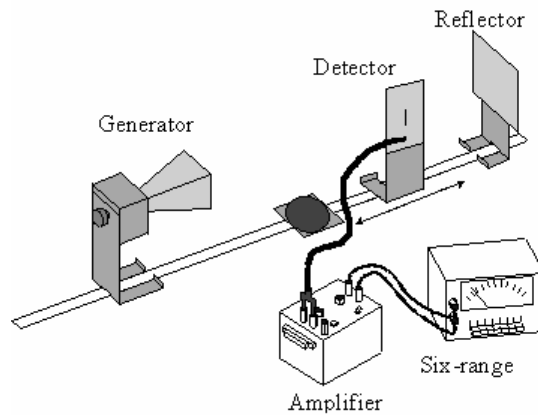

Fig. 10. Reflector placed by microwave detector probe.
We have seen how a grid of wires acts like a mirror for microwaves. A metal plate can be thought of as the limit as the spacing between the wires vanishes. Microwaves reflected from a metal plate have the same frequency and wavelength as the incident microwaves. At certain distances along the path, the electric fields of the two waves will constructively interfere and produce a maximum signal in the detector probe, while at other locations they will destructively interfere and produce a minimum signal. This will occur, for example, between the detector and reflector in Fig. 10, which we will next investigate. The incoming field from the generator will be reflected from the metal plate and subsequently interfere with the incident wave. Certain positions of the reflector will therefore cause maximum and minimum voltages in the detector probe. We can use the positions of these maxima and minima to determine the wavelength of the electromagnetic field.
- Using a BNC-to-banana adapter, plug the probe into the IN of the amplifier. One of the arms of the BNC-to-banana adapter has a tab, which indicates it should be plugged into the ground (black) terminal. Position the diode at about 50 cm from the front of the microwave generator's horn and oriented vertically, as shown in Fig. 10. Make sure the orientation of the generator is  $0^\circ$ .
- Place a reflector (solid flat piece of metal) behind the detector probe, as shown in Fig. 10. This will produce a standing wave between the generator and the reflector. Making sure to keep the probe at least 15 cm from the generator, slide the probe along the leg of the goniometer, and notice there are positions of maxima and minima signal strength. Slide the detector probe along the goniometer, no more than a cm or two, until you determine a maximum signal. Then slide the reflector, again no more than a centimeter or two, until you obtain another signal strength maximum. Continue making slight adjustments to the detector probe and reflector until the meter reading is as high as possible, but not pegging on the 10 V scale. If this occurs, move the generator back further away.